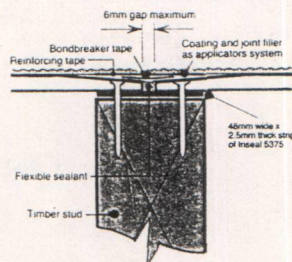

**Fig. 4 Vertical sealant relief joint alternative 2**
- Refer to Fig. 4 for general notes relating to this as the details are similar except for the double studs.